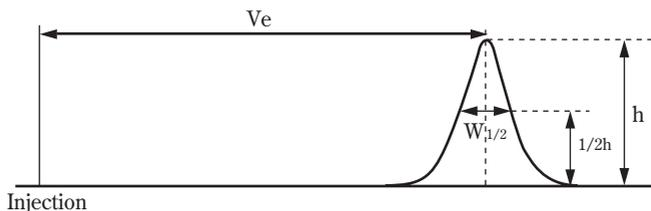

Fig. 3 Method of Calculating the Number of Theoretical Plates
The number of theoretical plates of a column (N) is calculated by the half peak width method shown in Fig. 3 and the following equation.